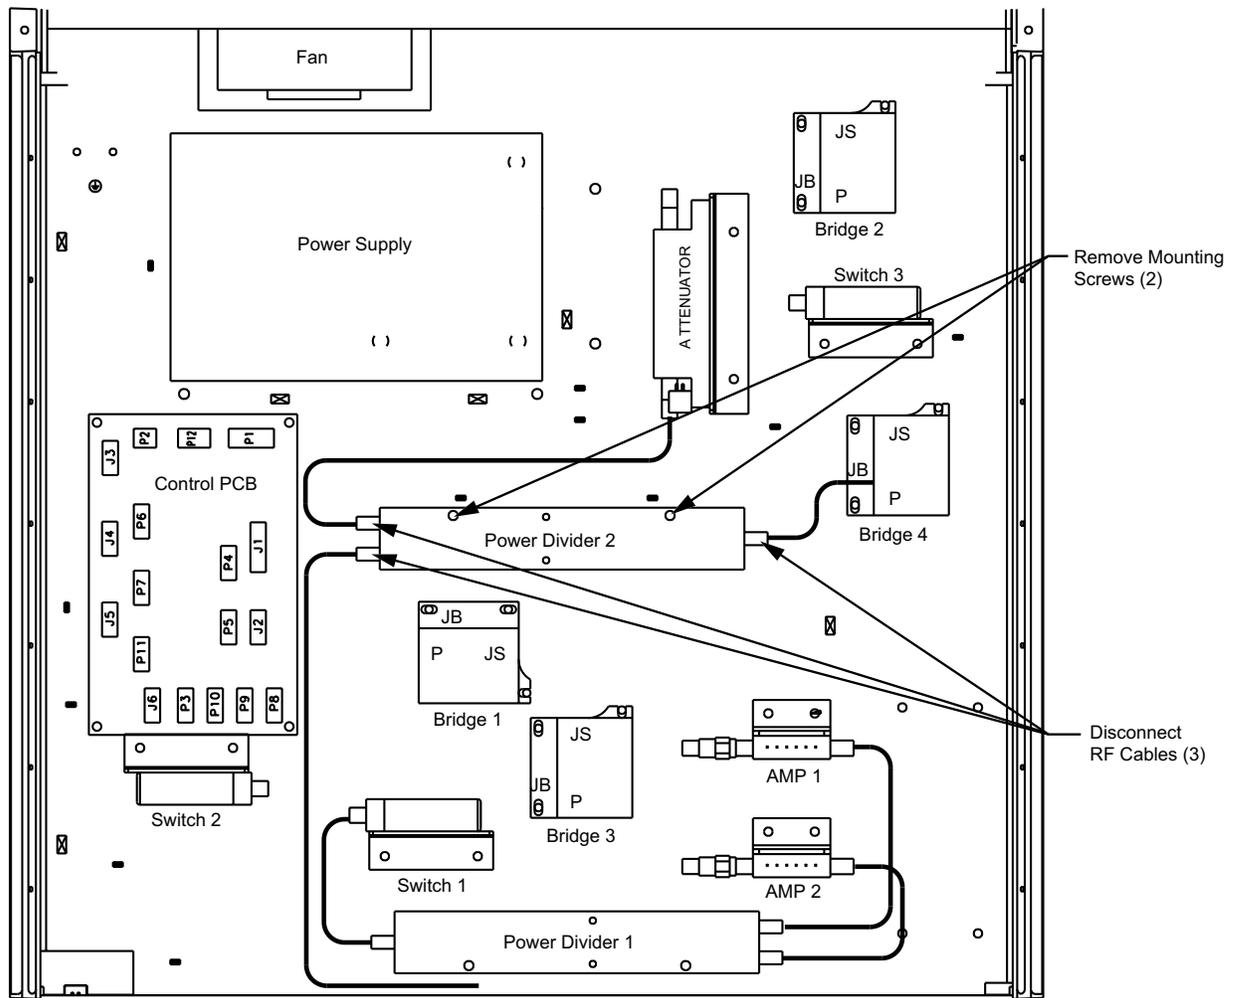

Figure 5-5. Power Divider Removal
- Step 2.** Disconnect the three RF cables from the Power Divider using a 5/16-inch wrench (Figure 5-5).